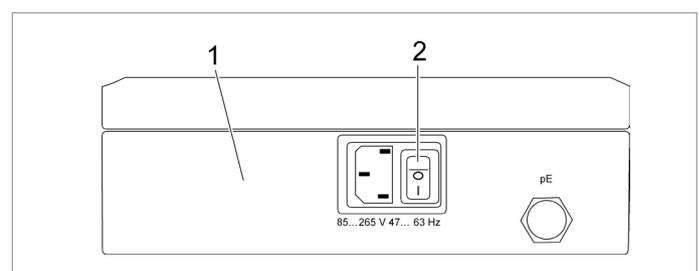

Fig. 13 Switching on the ELK 02
1. Switch on the ELK 02 using the On/Off switch (Fig. 13/2) on the control unit (Fig. 13/1).